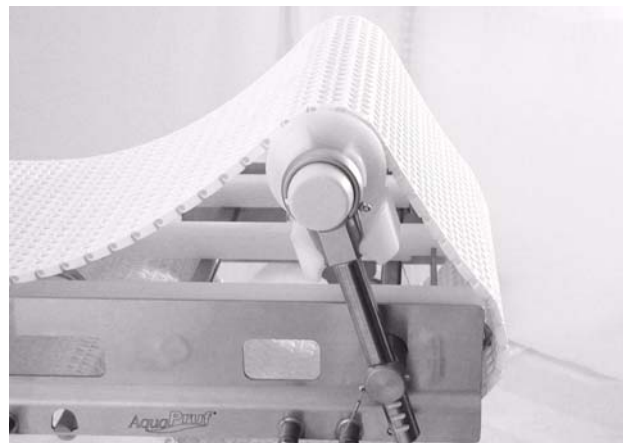

Figure 47
2. Tip up idler tail assembly (**Figure 47**).